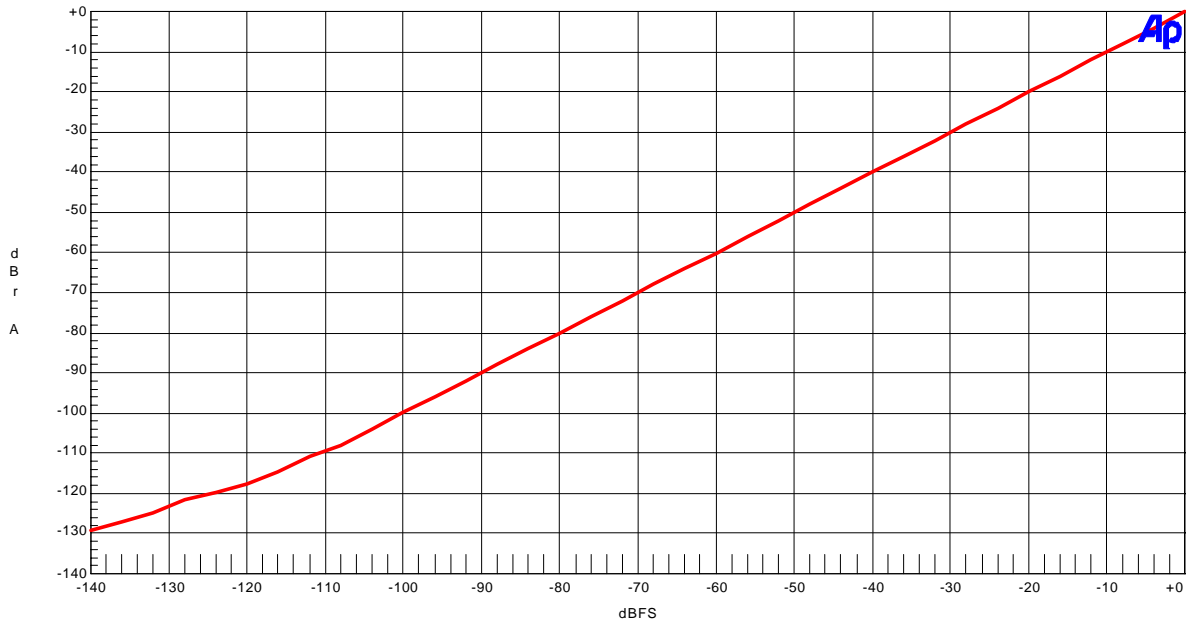

Figure 17. Linearity (fs=96kHz; fin=1kHz)
- Figure 17. Linearity (fin=1kHz)